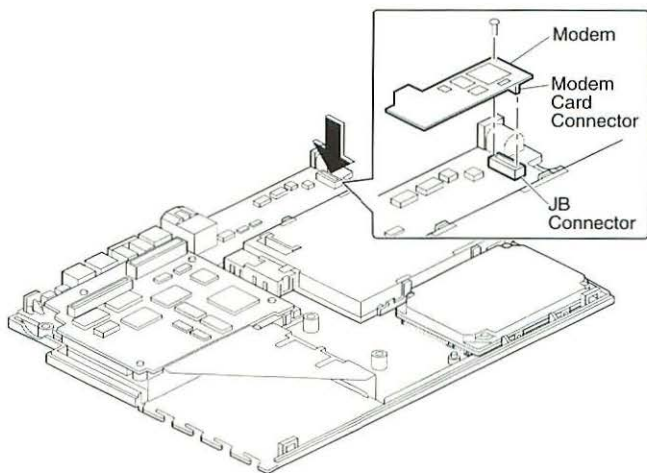

Figure 2 Modem Card
3. Connect the modem card connector to connector JB on the motherboard (Figure 2).